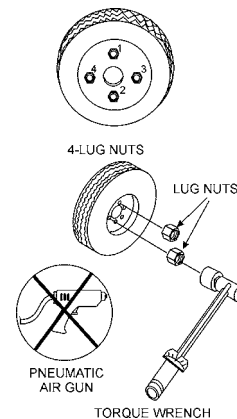

Figure 27. Lug Nut Torque Sequence
2. Torque all lug nuts in sequence. See Figure 27. **DO NOT** torque the wheel lug nuts all the way down. Tighten each lug nut in 3 separate passes as defined by Table 5.
3. After first road use, retorque all lug nuts in sequence (Figure 27). Check all wheel lug nuts periodically.